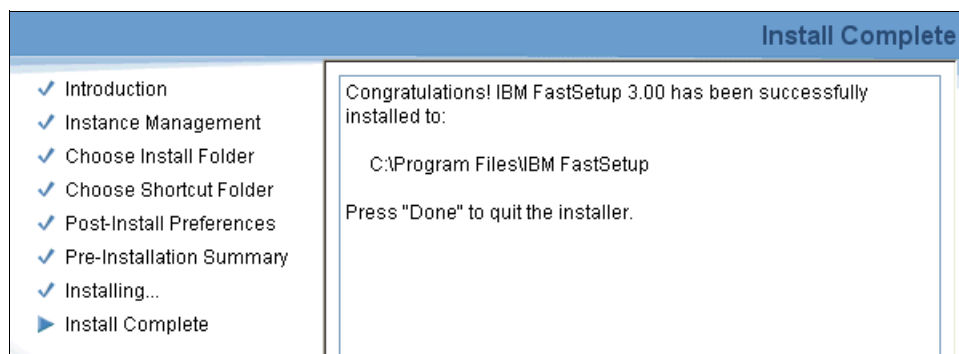

Figure 6-28 Installation Complete message
- When the installation is complete, you will receive a success message in the Install Complete panel shown in Figure 6-28. Click **Done**.